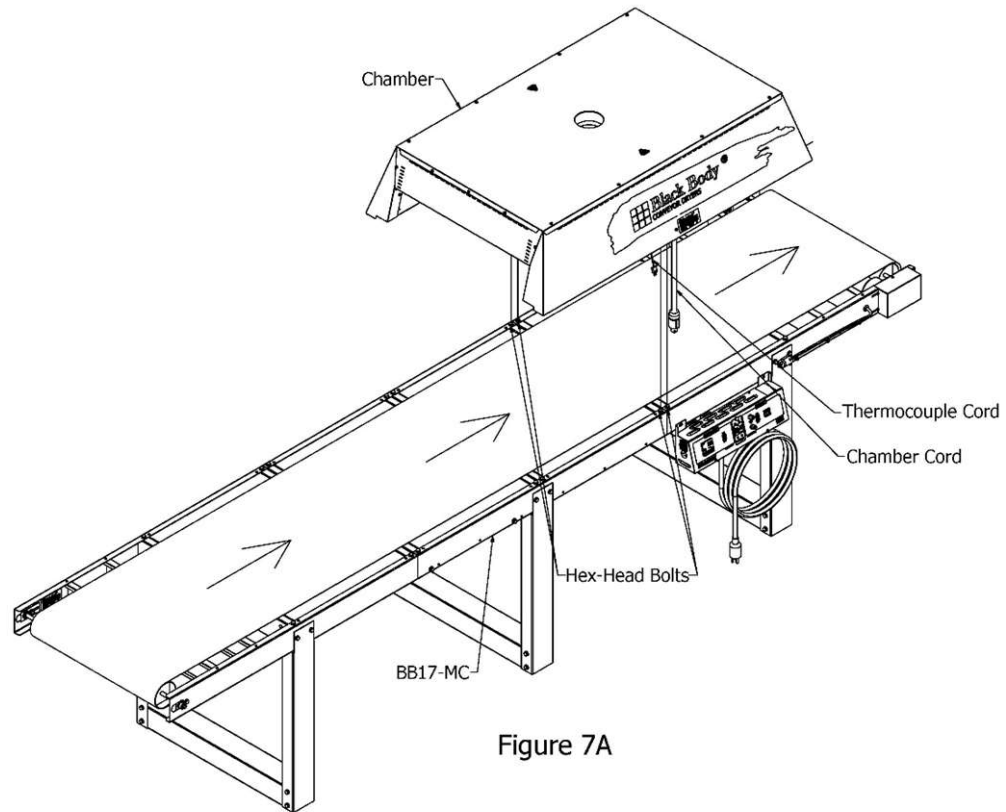

Figure 7A
1. **Using two people** set the chamber onto the conveyor bed. (See Figure 7A or 7B) The Heating Chamber cord must be on the same side of the Conveyor Bed as the Control Panel.